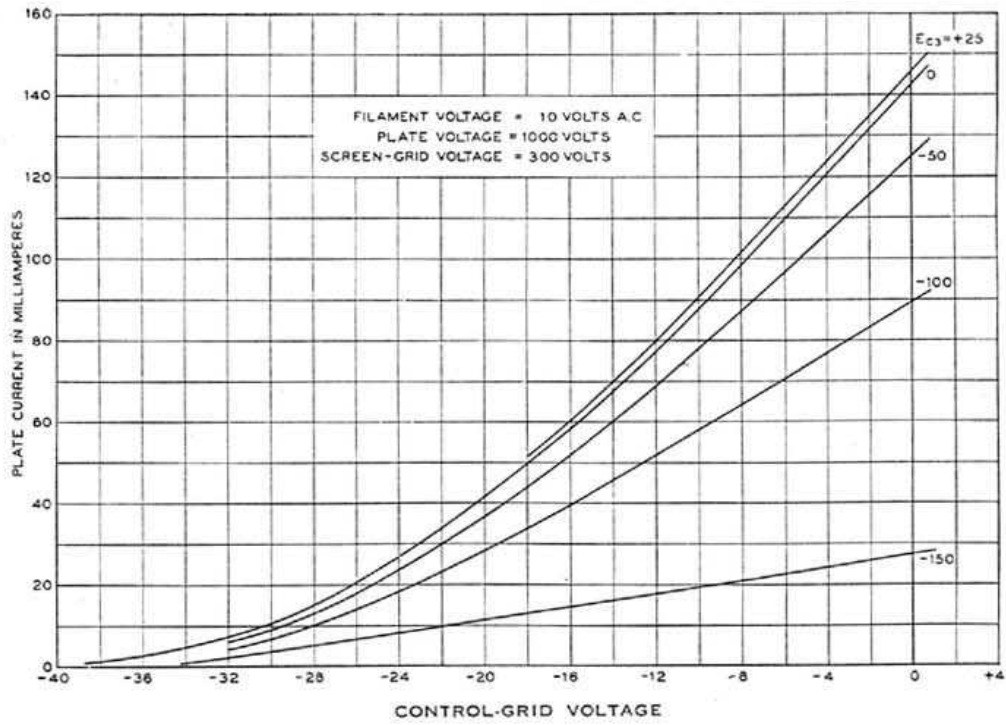

FIG. 3
**Characteristics**—Performance data given below are based upon a typical set of conditions. Variations can be expected with different circuits and tubes. Figures 3 to 8, inclusive, give the static characteristics of a typical tube plotted against grid and plate voltages. All data are based on alternating current operation of the filament, with grid voltages referred to the center tap of the filament.